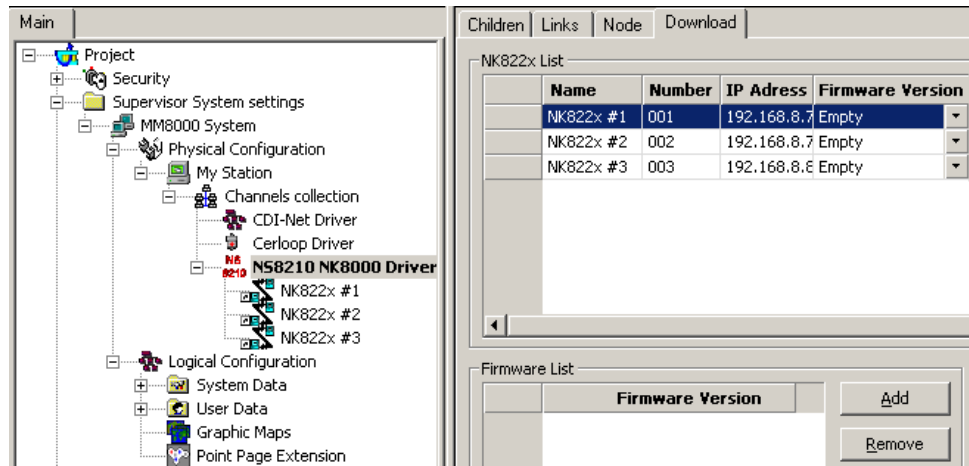

Fig. 8 Download tab
4. Select the **NS8210 driver** node and then the **Download** tab (Fig. 8).